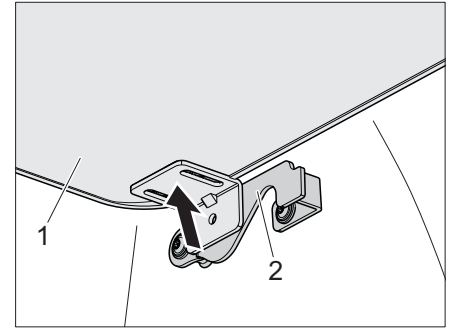

Fig. 22 Journal
- ▶ Lift the bed extension (Fig. 22,1) on the left and right out of the holder (Fig. 22,2).